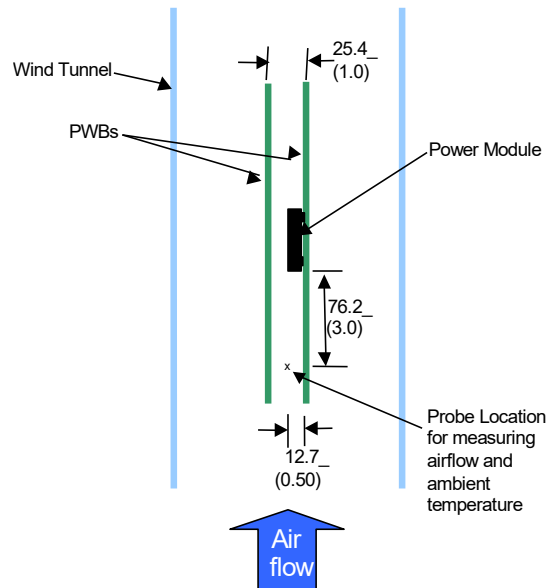

Figure 34. Thermal Test Setup.
Power modules operate in a variety of thermal environments; however, sufficient cooling should always be provided to help ensure reliable operation. Considerations include ambient temperature, airflow, module power dissipation, and the need for increased reliability. A reduction in the operating temperature of the module will result in an increase in reliability. The thermal data presented here is based on physical measurements taken in a wind tunnel. The test set-up is shown in Figure 34. The preferred airflow direction for cooling the module and the thermal reference points, Tref used in the specifications are shown in Figure 35. For reliable operation the temperatures at these points should not exceed 120°C (IC300) and 115°C (C202). The output power of the module should not exceed the rated power of the module ($V_{o,set} \times I_{o,max}$). Please refer to the Application Note “Thermal Characterization Process for Open-Frame Board-Mounted Power Modules” for a detailed discussion of thermal aspects including maximum device temperatures. Increased airflow over the module enhances the heat transfer via convection. The thermal derating of figures 2, 8, 14 and 20 show the maximum output current that can be delivered by each module in the indicated orientation without exceeding the maximum Tref temperature versus local ambient temperature (TA) for several air flow conditions. The thermal derating curves were generated using a 12 layer evaluation board with 3oz copper in inner layers and 2 oz in outer layers.